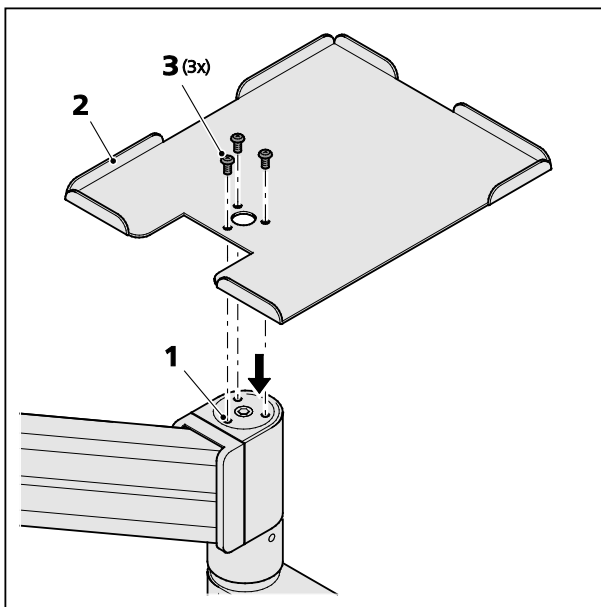

Fig. 8 Installing console U
- Secure the console U (Fig. 8/2) on the articulated suspension arm with three fillister-head screws M5 x 10 mm (SW 3 mm) (Fig. 8/3). Start with the threaded hole (Fig. 8/1) located eccentrically on a rotating disk.